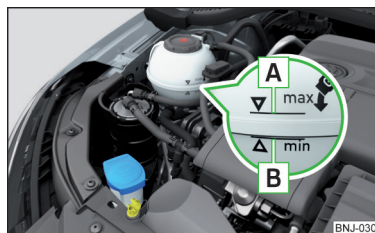

Fig. 261
Check the coolant level – The coolant level must lie between the marks **A** and **B** » Fig. 261. If the coolant level is below the mark **B**, top up with coolant.
» Fig. 261.
- Do not fill the coolant above the mark **A** » Fig. 261. The coolant could, when heated, be expelled from the cooling system - risk of damage to the engine parts.